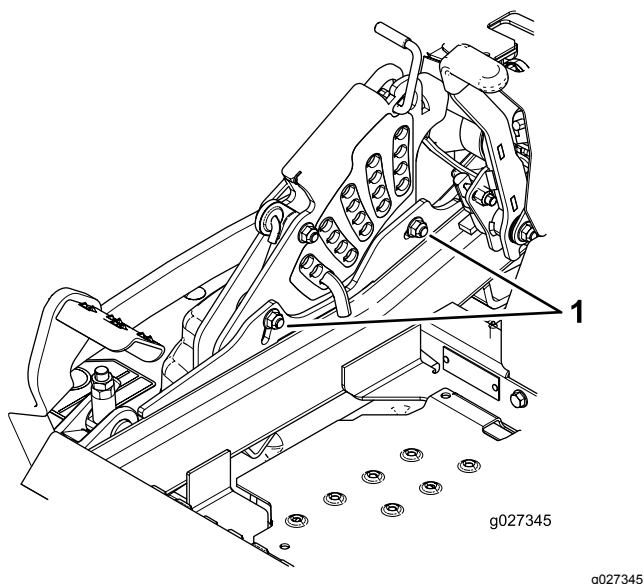

Figure 89
12. To adjust the single-point system, loosen the 2 bolts at the bottom of the height-of-cut plate (Figure 89).
14. Tighten the 2 bolts at the bottom of the height-of-cut plate (Figure 89).